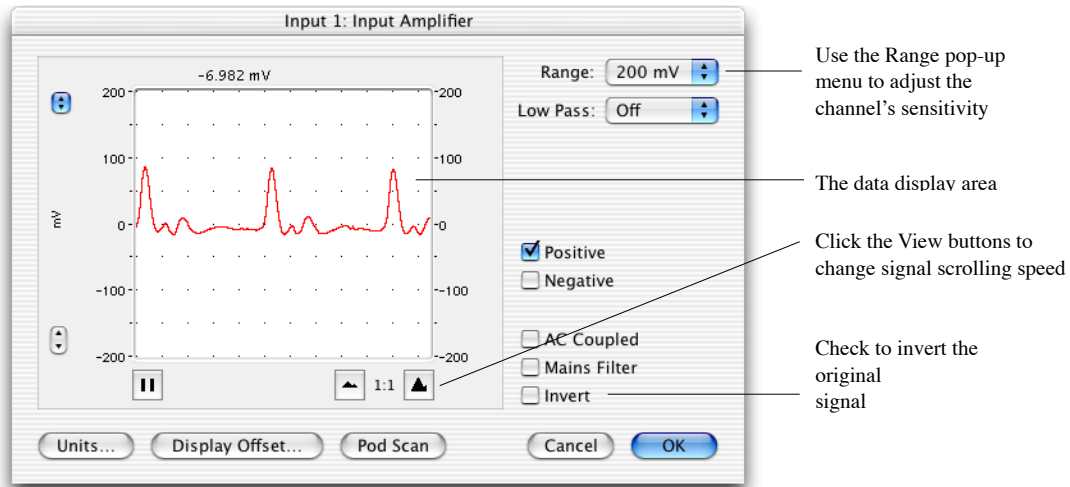

Figure 2. The Input Amplifier dialog box.
2. Adjust the sensitivity of the channel by changing the range setting. The number indicates the maximum input voltage (i.e., the 10 V indicates ± 10 V). Try a number of ranges to find a nice waveform that fills about a third of the window (Figure 2). Did the signal change in magnitude?